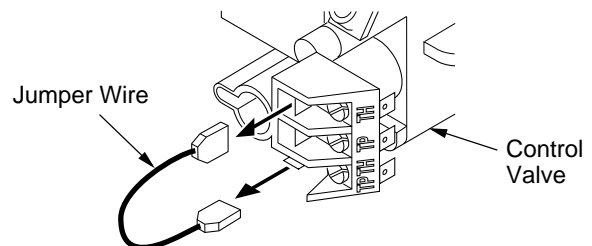

Figure 13 - Disconnecting Jumper Wire from Control Valve
1. Disconnect jumper wire from control valve at TPTH and TH locations (see Figure 13),